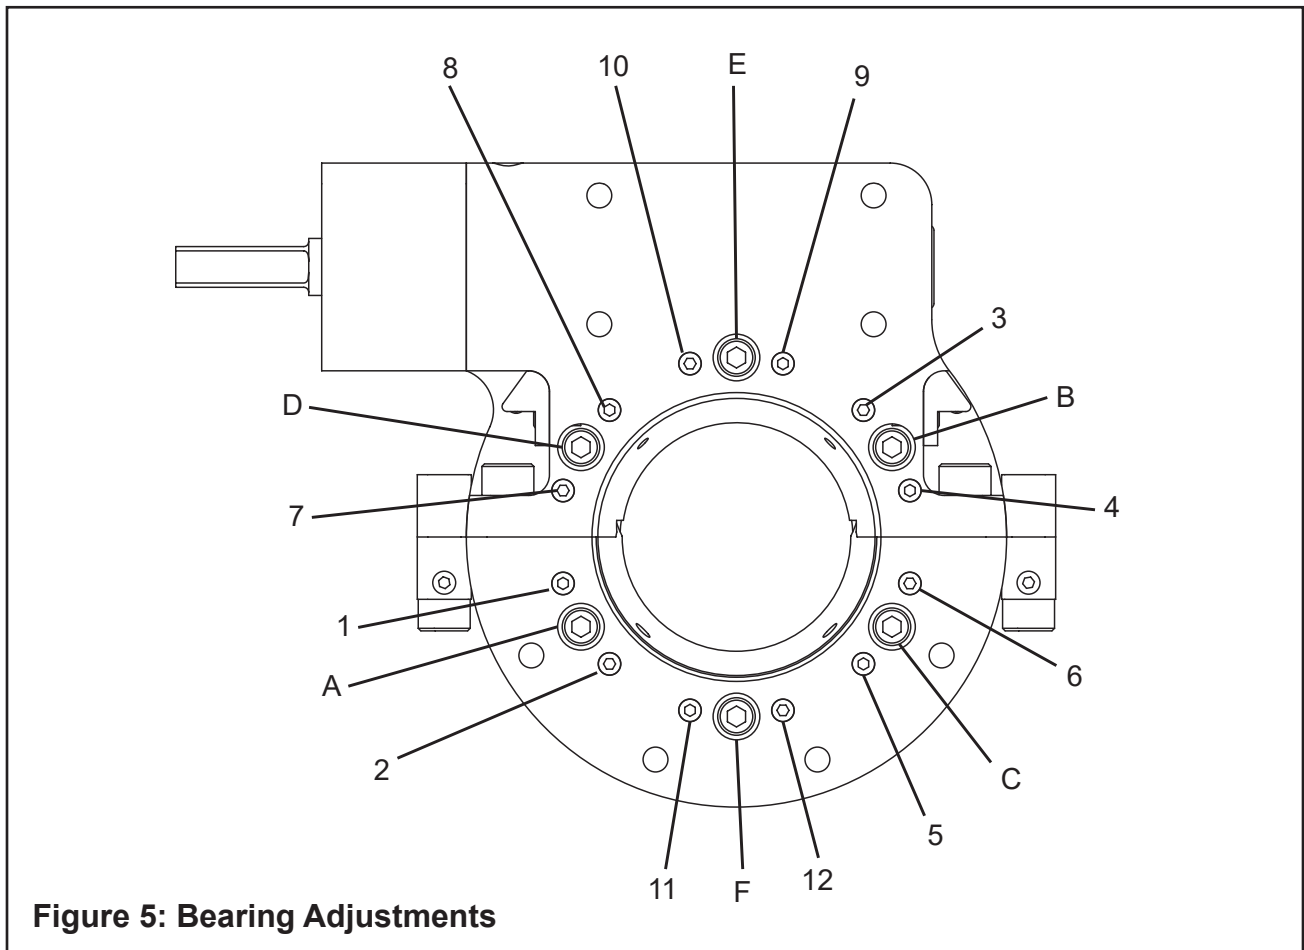

Figure 5: Bearing Adjustments
1. Loosen all main bearing locking screws one full turn with the 7/64" wrench. The locking screws are labeled A through F (refer to Fig. 5).